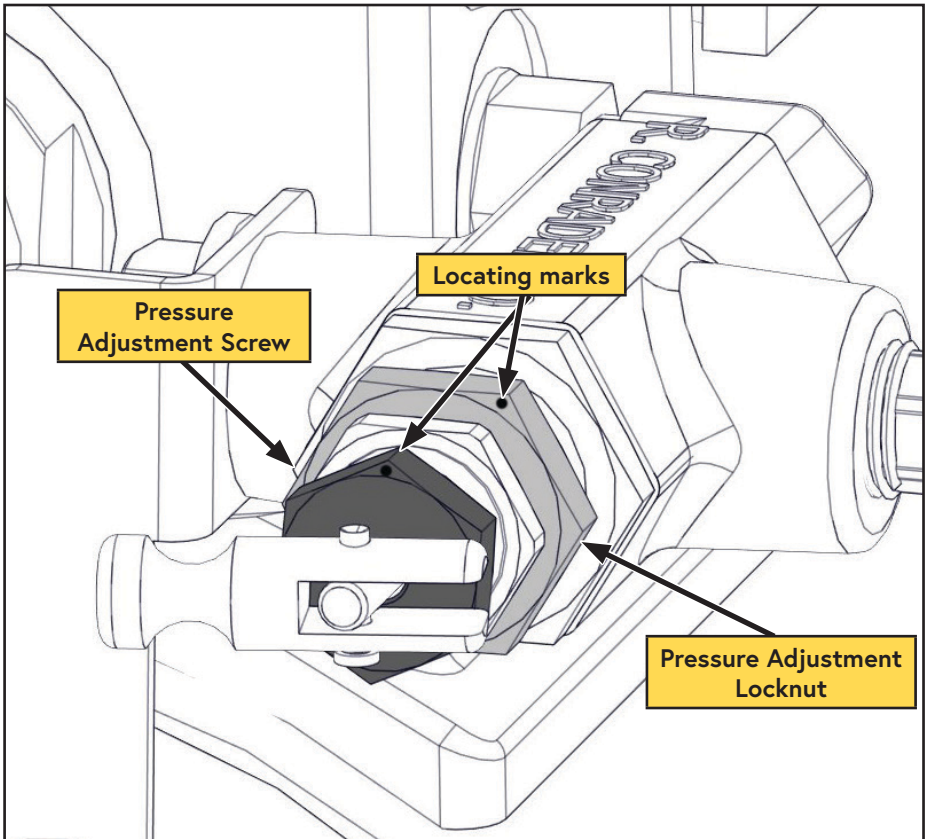

Figure 50 — Adjusting the Unloader Valve
- ☐ Make a locating mark on both the "Pressure Adjustment Locknut" and the "Pressure Adjustment Screw" (Figure 50).